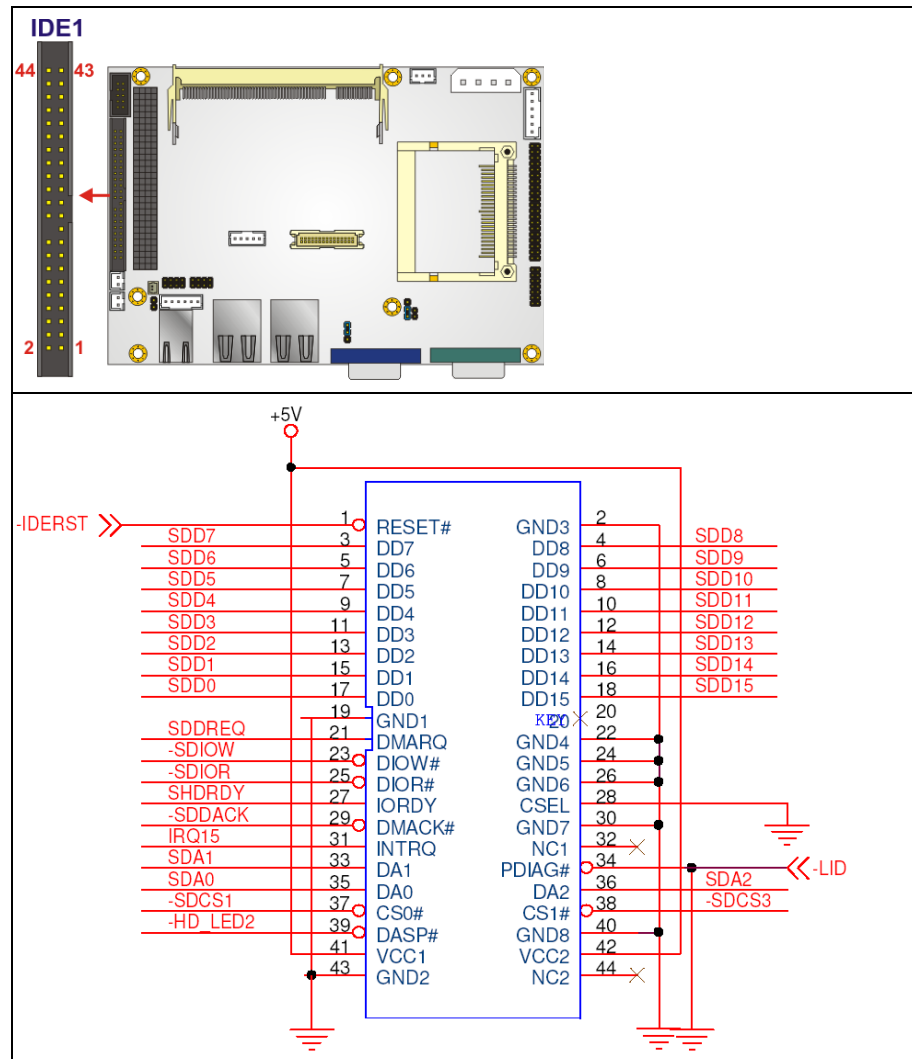

Figure 4-6: IDE Device Connector Location
- CN Location:** See Figure 4-6